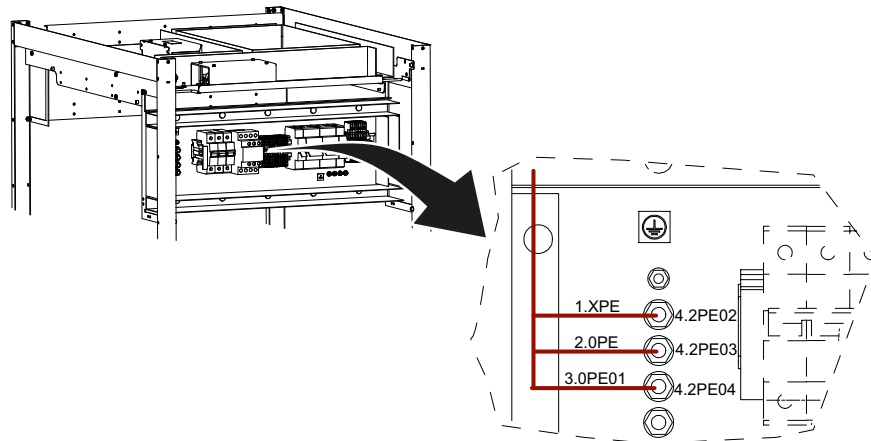

Fig. 4-70 Protective earth 4.2
1. Make sure the protective earth cables from table, wallstand and overhead tube crane are connected and the bolts are tightened, see **Fig. 4-70**.